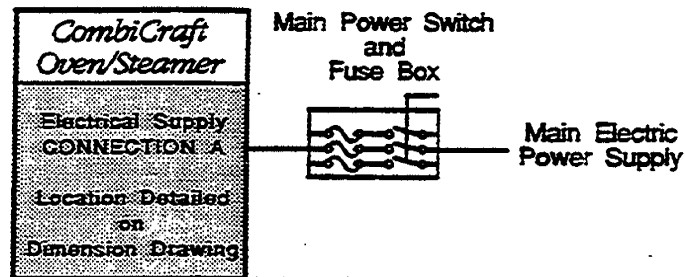

Figure 3-3. Main Power Switch
3. Refer to the main power switch in Figure 3-3, and turn on electric power to the CombiCraft.
2. Turn off the electrical power to the CombiCraft at the main power switch. (Refer to Figure 3-3, Main Power Switch.)